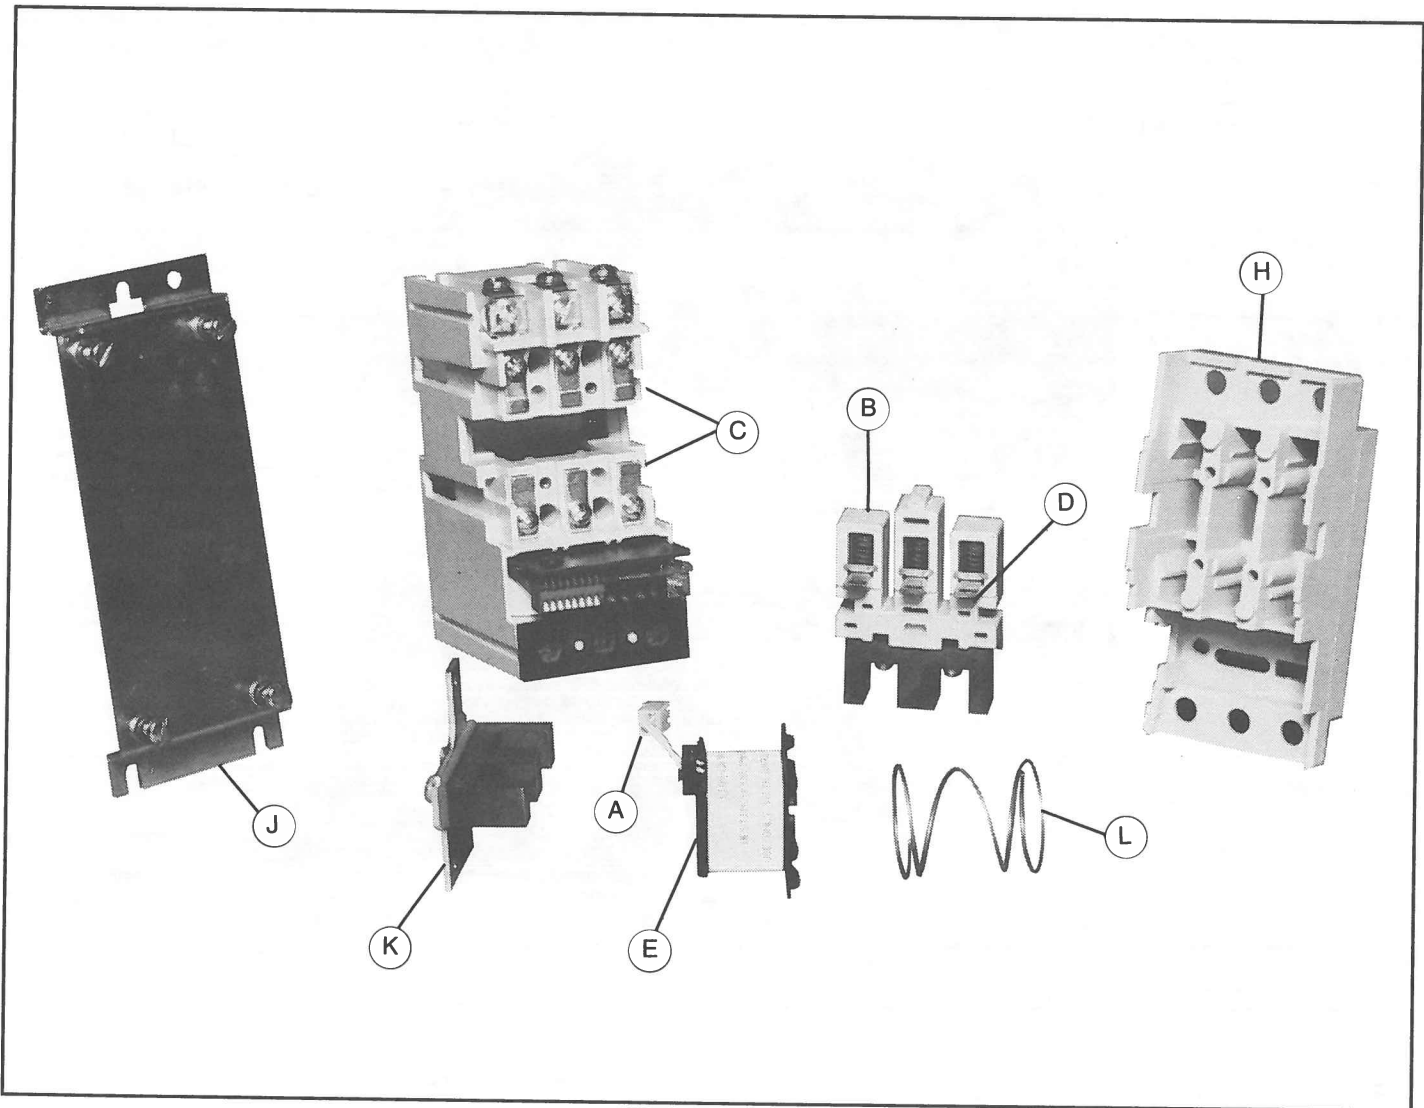

Fig. 35 Size 1 W200 Starter (Exploded View)
Control center renewal parts identified by part or style number are detailed in Westinghouse Publication 8991, Renewal Parts Data. The nomenclature to identify these parts is shown in Figures 2 and 34. The most common renewal parts for components are shown in Figure 35 and on page 26. Structure parts are the same as Series 2100.
The contactors which serve as the magnetically operated switches in each of the motor control units are designed for convenient maintenance, with direct access to contacts and coils for easy inspection and replacement. Figure 35 shows an exploded view of a Size 1 contactor, representative of Sizes 1 through 4. The same principles of disassembly apply to Sizes 5 and 6. Devices
Refer to Figure 35: Loosen the two captive arc box cover screws accessible through holes in the nameplate and remove the arc box cover (H). Remove the crossbar (B) assembly containing the movable contacts. Stationary contacts (C) and movable contacts (D) are visible. The silver-cadmium-oxide contacts need NO dressing or lubricant throughout their life. **Important** — Replace all contacts, springs and crossbar as a group to avoid misalignment.
Refer to Figure 35. Loosen the two captive arc box cover screws and remove the arc box cover (H). Remove the baseplate (J). Note the small molded connector (A) containing the two coil leads attached to a plug on the circuit board. With a small screwdriver, lift the latch that holds this connector and slide it off the plug. Loosen the three screws that are accessible via the deep holes between the stationary contacts and free the plate (K) that holds the E-shaped magnet. Do **not** remove the magnet from its supporting plate (K). Replace the coil (E). Reassemble with the new coil positioned so that the arc projections on the coil bobbin engage the armature return